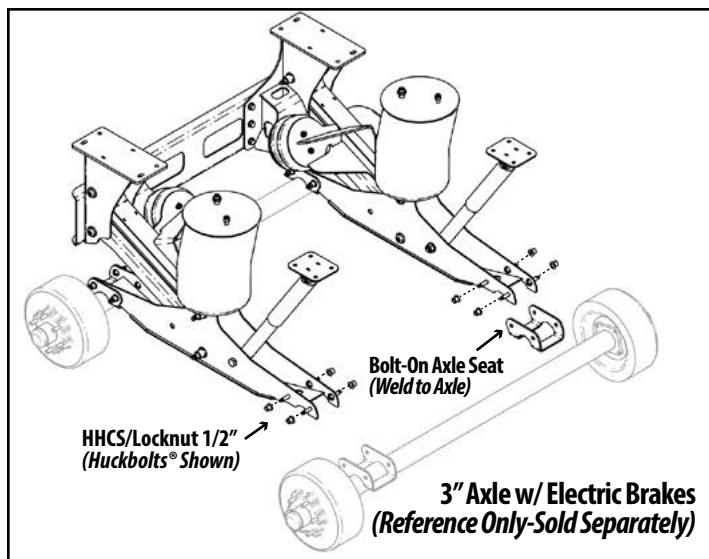

Figure 15.
2. Cut/grind away Huck® Fasteners from the right- and left-hand load beam assembly and discard. Remove axle from the load-beams (Figure 15).